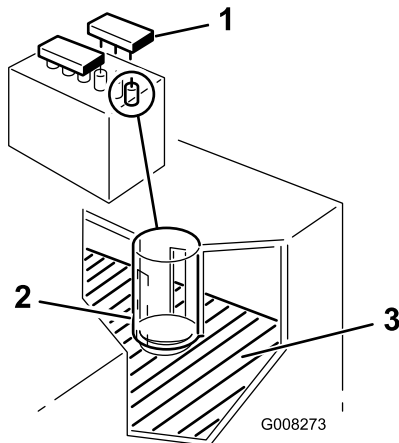

Figure 33
2. Remove the filler caps. If the electrolyte is not up to the lower part of the tube (Figure 33), add the required amount of distilled water; refer to Adding Water to the Battery.
2. Remove the filler caps (Figure 33).
3. Slowly pour distilled water into each battery cell until the level is up to the lower part of the tube (Figure 33).